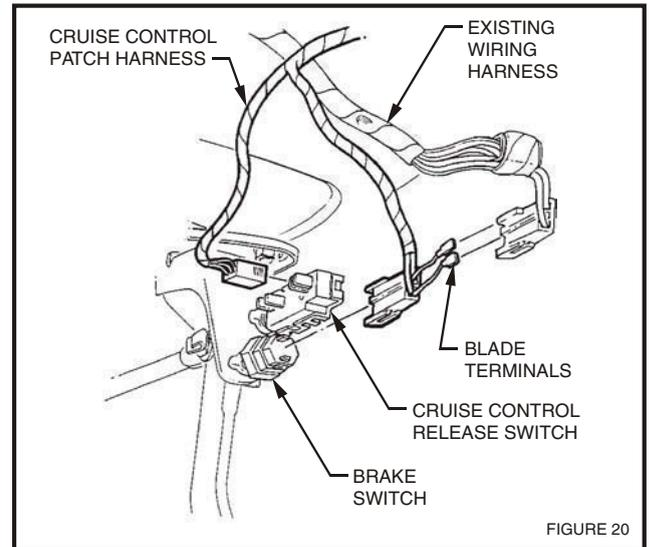

FIGURE 20
41. Disconnect brake switch connector from brake switch, refer fig. 20.
42. Connect patch harness brake switch connector to brake switch, refer fig. 20.
44. Insulate blade terminals into connector housing with electrical tape, refer fig. 20.
46. Fit cruise control release switch and attach connector from patch harness, refer fig. 20.